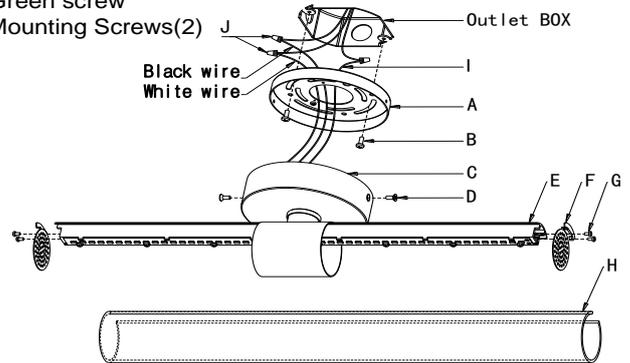

Fig.2
CONNECTING THE WIRES (FIG. 2)
4. At this point, connect the electrical wires as shown in Fig. 2, making sure that all wire connectors are secured. If your outlet has a ground wire (green or bare copper), connect the fixtures ground wire to it. Otherwise, connect the fixture ground wire directly to the mounting plate (A) using the green screw provided. After wires are connected, tuck them carefully inside the junction box.
5. Align the fixture's back plate (C) over the mounting back plate (A) and secure with screws (D) (Size: 'M4*8MM).